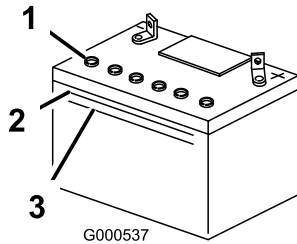

Figure 40
1. Look at the side of the battery. The electrolyte must be up to the **upper** line (Figure 40). Do not allow the electrolyte to fall below the Lower line (Figure 40).
3. Remove the vent caps from the battery (Figure 40).
4. Slowly pour distilled water into each battery cell until the electrolyte level is up to the Upper line (Figure 40) on the battery case.
5. Wait five to ten minutes after filling the battery cells. Add distilled water, if necessary, until the electrolyte level is up to the Upper line (Figure 40) on the battery case.